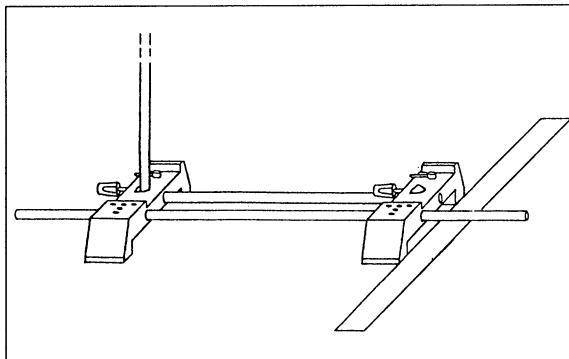

Fig. 2 Stand setup as in fig. 1 but with extra 50 cm stand rod
4. How does the structure shown in fig. 3 differ from that in fig. 2?